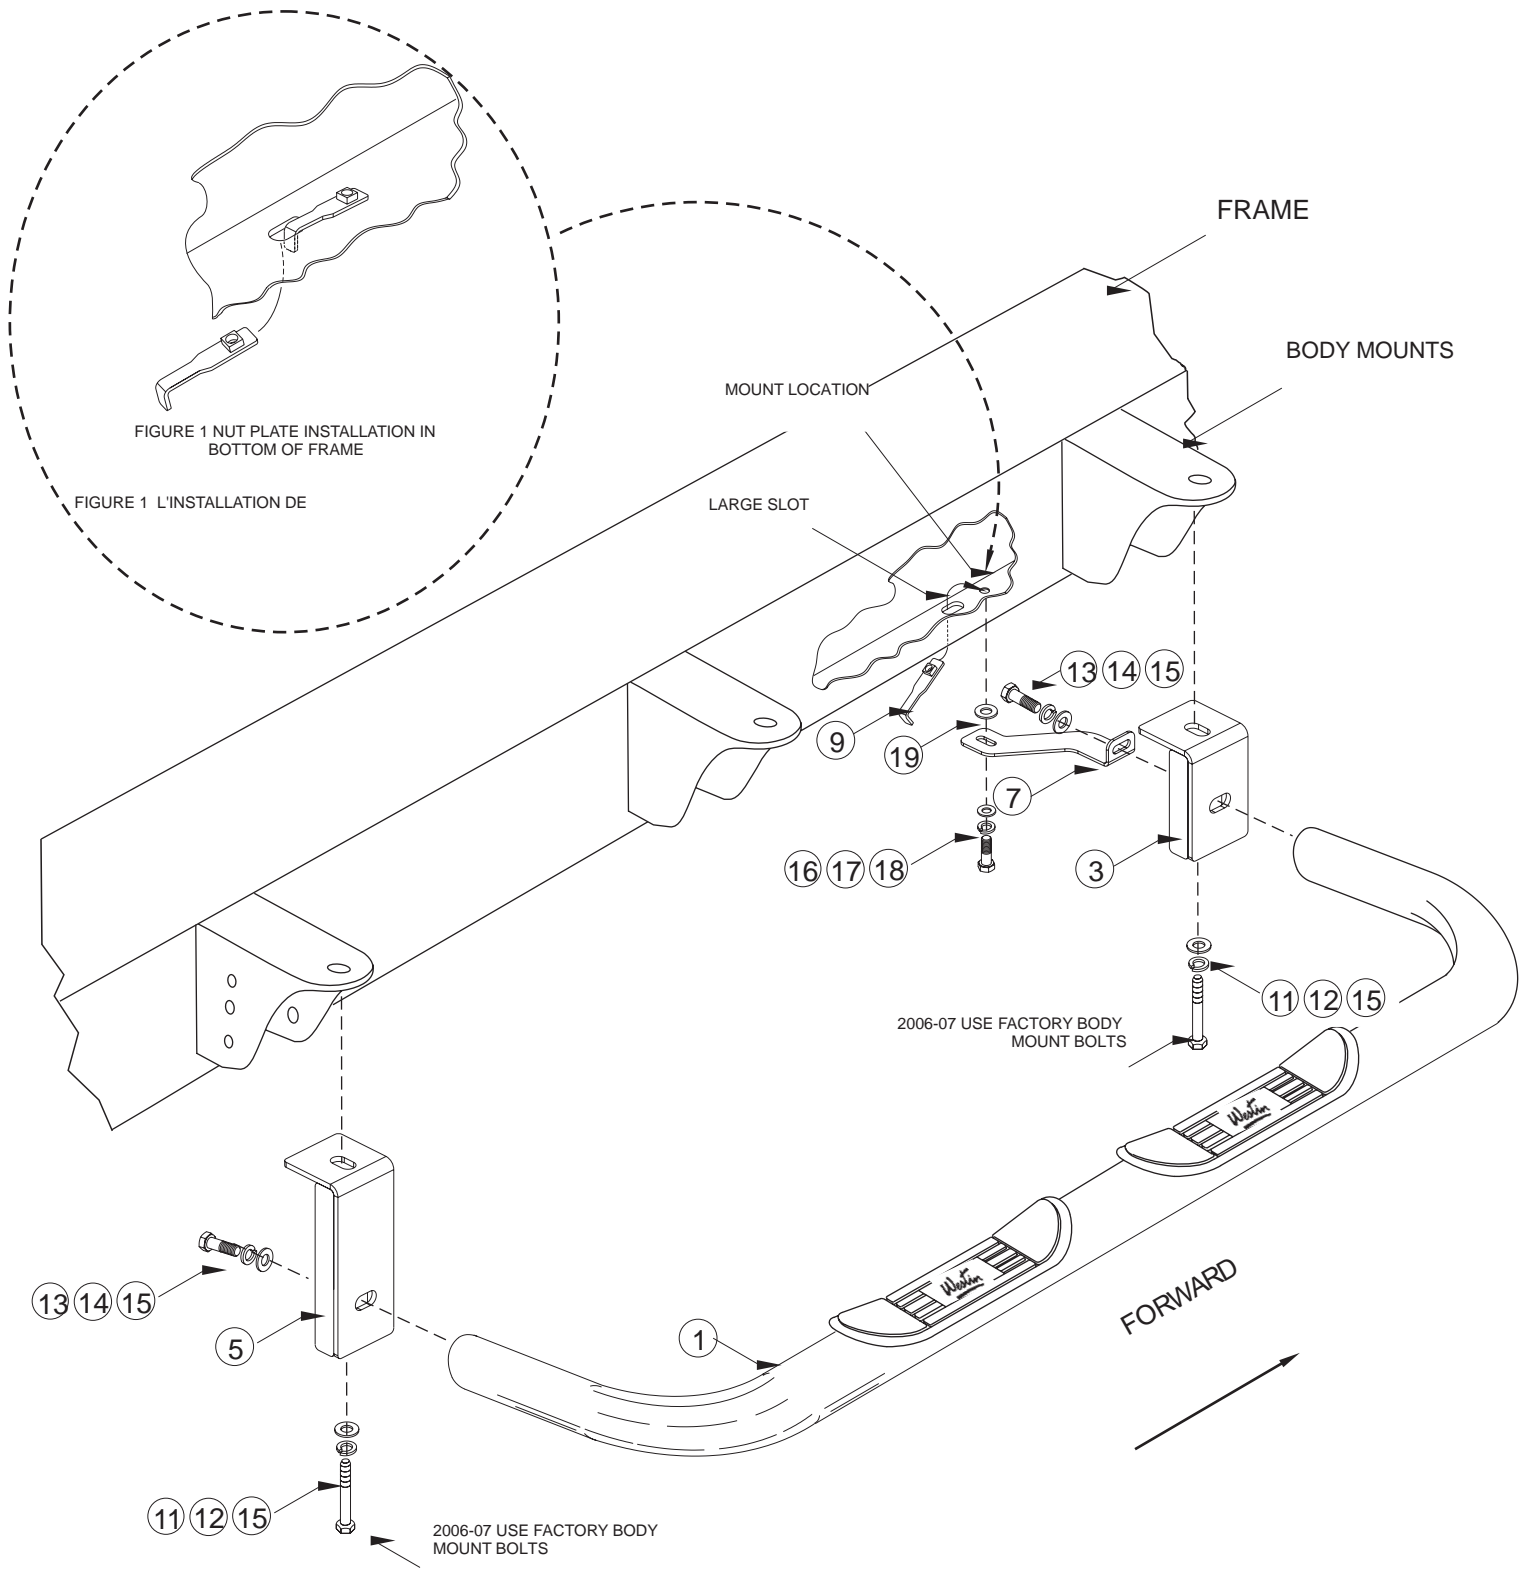

FIGURE 2 INSTALLATION VIEW OF PASSENGER SIDE SHOWN, DRIVER SIDE OPPOSITE
- STEP 5. Attach front support brace with one spacer washer between brace and frame. Secure front support brace to the nut plate using 3/8" fasteners. **SEE FIGURE 2.**